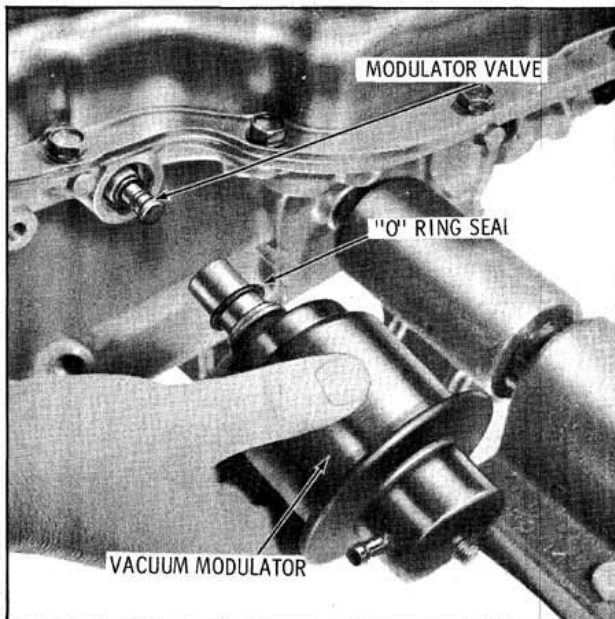

Fig. 6-30 Removing Modulator and Valve
5. Remove modulator assembly and "O" ring seal from case. (Fig. 6-30)